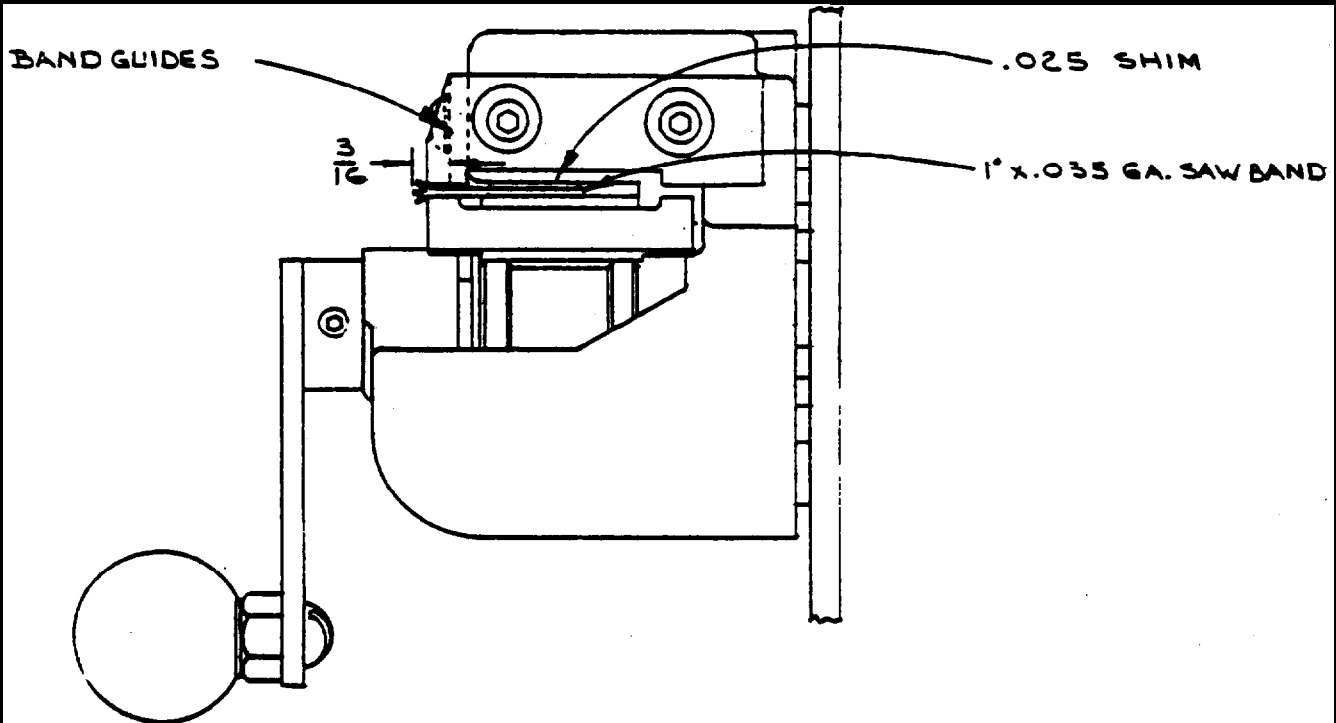

FIG. 6
The blade alignment guides are used to maintain tooth edge alignment of the wide of the band being welded. Before installing the band guides, check their mounting surfaces on the welder jaws. These surfaces must be in line within 0.004", when checked with a straight edge. A file may be used to bring the surfaces in line. The guides are aligned to protrude below the band clamping surface of the welder jaws by 0.025" (fig. 6). Adjust in the following manner:
2. Insert a section of 1" x 0.035 ga. band into the welder jaws. The band must be out of the jaws (teeth extend in front of alignment guides by at least 3/16") as shown in fig. 6.